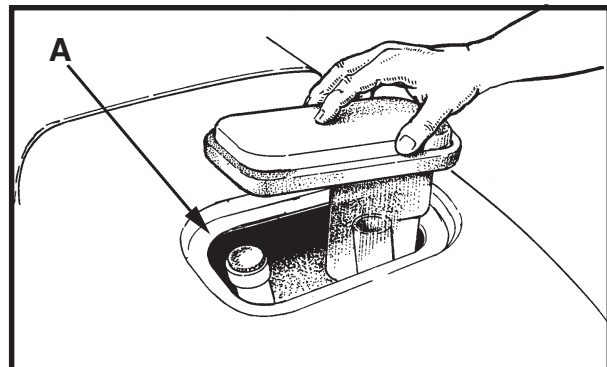

Figure 2
3. Make sure the recovery tank lid is on correctly. See figure 2.
4. Make sure the Screen filter over the vacuum motor is clean and in position. See figure 2 (a)
**CAUTION:** Make sure water or solution does not enter the opening for the vacuum motor. See figure 2.